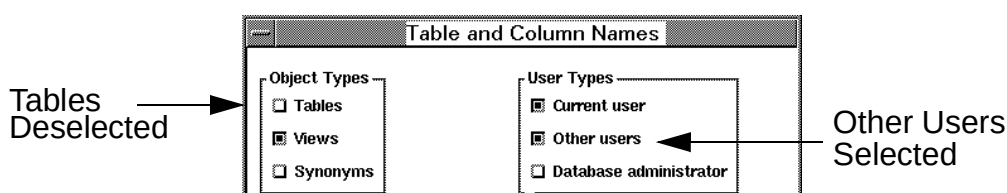

Figure 3-14. Tables and Column Names Selection
5. To continue using the Tables and Columns dialog box, deselect **Tables** in the Object Types part so that just Views is selected. Also, select **Other users** in the User Types part so that both Current and Other Users are selected, Figure 3-14.